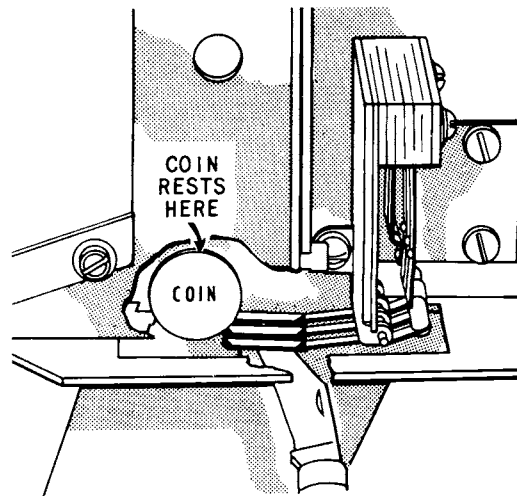

Figure 12. Coin Position
DO NOT ATTEMPT ANY BENDING ADJUSTMENT IF THE SWITCH MEETS CONDITIONS OUTLINED ON FIGURES 12, 13 and 14.
1. Insert a dime at top of the slug rejector while supporting the switch actuating lever with a knife blade. The coin rests on the lever as shown in Figure 12.
5. Bend short blade at this point so it moves approximately 1/64" when coin is slowly released as in Figures 12 and 13.